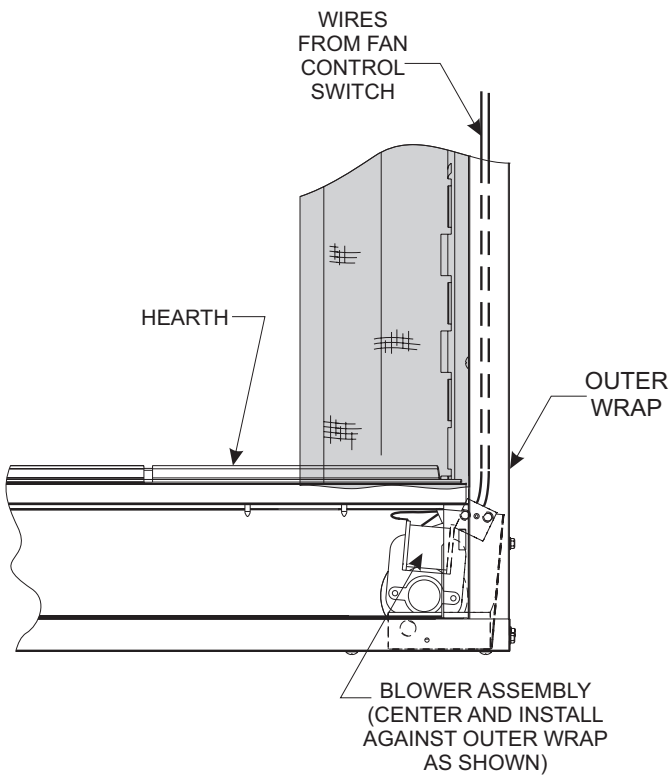

Figure 11
1. Insert blower assembly into interior, bottom of firebox. Position blower assembly so that you align the notch on back of blower assembly with the center screw on side/end panel, then push the blower assembly against firebox outer panel. The blower wheel must be centered with the side/end wall of the firebox. The magnets on the back and bottom of blower assembly will sufficiently hold blower assembly in place. **See Figure 11.**
4. The fan control wires will slide down between the firebox and outer wrap near the blower assembly. **See Figure 11.**
9. To complete the installation, plug the power cord into the junction box receptacle previously installed in the bottom of the firebox. **See Figure 11.**